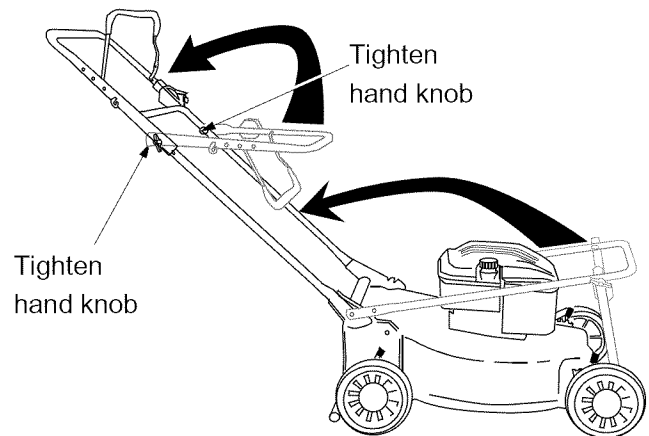

Figure 3
- The upper handle is attached to the lower handle with a handle knob and a carriage bolt on each side. See Figure 3. Tighten these hand knobs. Make sure that each carriage bolt is seated properly on the handle.